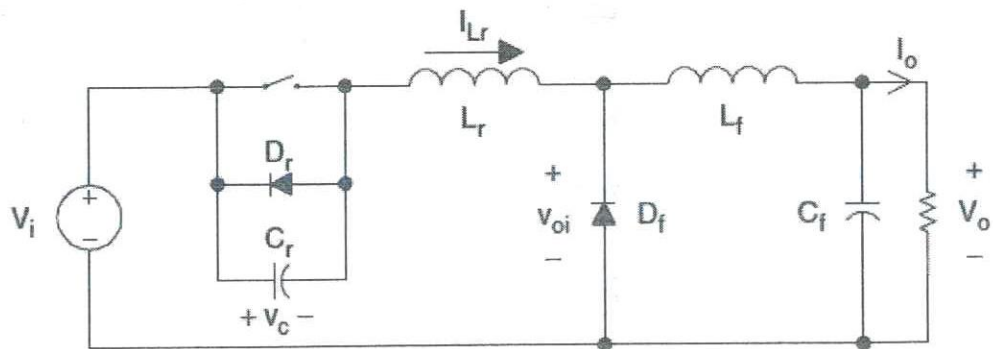

Figure Q5: Zero voltage switching quasi resonant buck converter.
- b) Figure Q5 shows a circuit diagram of a zero-voltage switching (ZVS) quasi resonant buck converter.
- i) Why the converter shown in Figure Q5 is called as zero voltage switching converter and what are the reasons for using zero voltage switching?